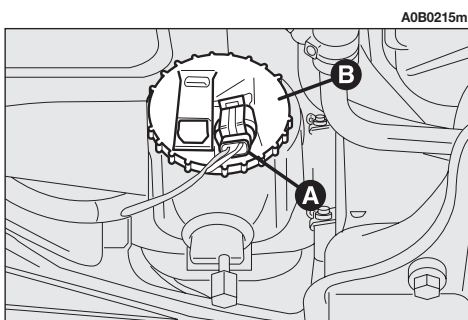

fig. 33
- Disconnect the connector (**A-fig. 33**) from the light unit.
- Turn the cover counter-clockwise (**B-fig. 33**) and remove it.
- refit the cover (**B-fig. 33**) and connect the connector (**A-fig. 33**) to the light unit.